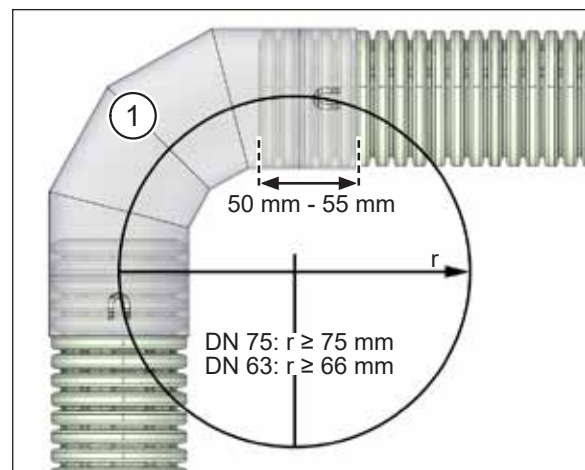

Fig. 9: 90° flexible pipe bend
- ▶ Use the 90° flexible pipe bend (item 1 in Fig. 9) to achieve smaller bending radii (see Fig. 9):